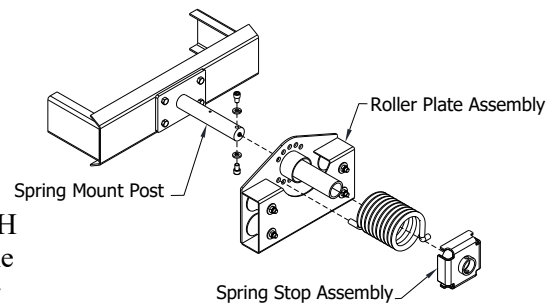

Figure 6.2
4. Slide the front Roller Plate Assembly onto the Spring Mount Post. Refer to **Figure 6.2**
5. Slide the front Roller Plate Assembly onto the Spring Mount Post. Slide the Hub Spring RH (Black) onto the rear Roller Plate Assembly. Refer to **Figure 6.2.**